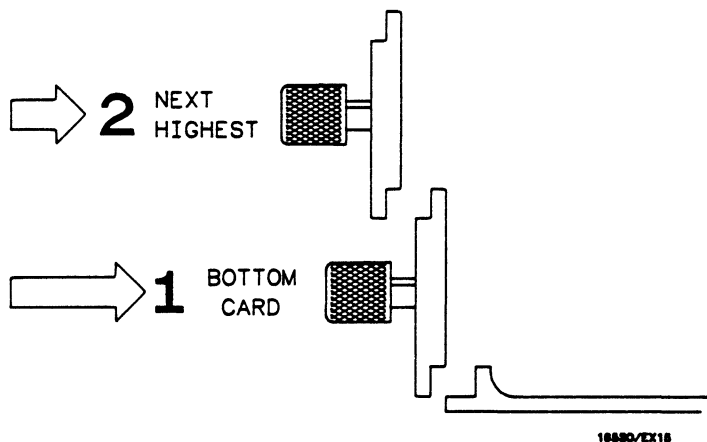

Figure 6-17. Endplate Overhang
- n. Repeat for all cards and filler panels in a **bottom to top** order. See figure 6-17.